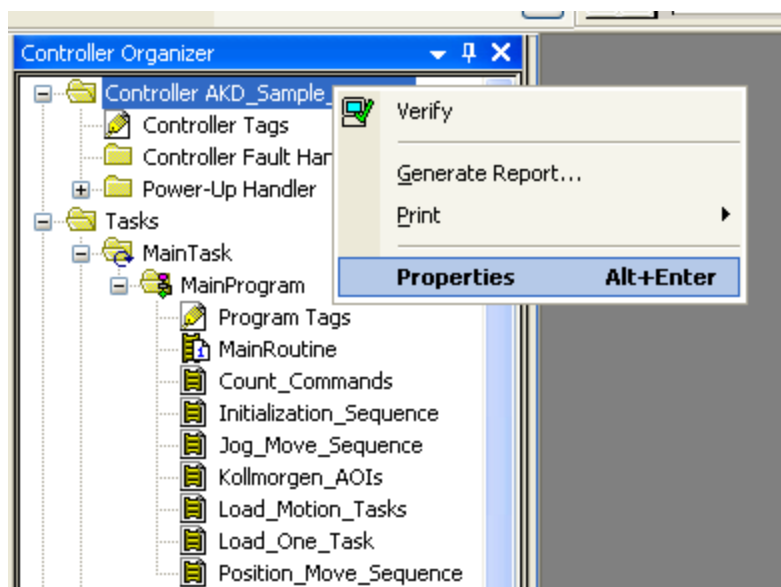

Figure 3-1: Opening Controller Properties
2. You will most likely need to update the controller properties to match your specific installation. Right click on the controller ("AKD_Controller") at the top of the tree and select "Properties" (Figure 3-1: Opening Controller Properties).